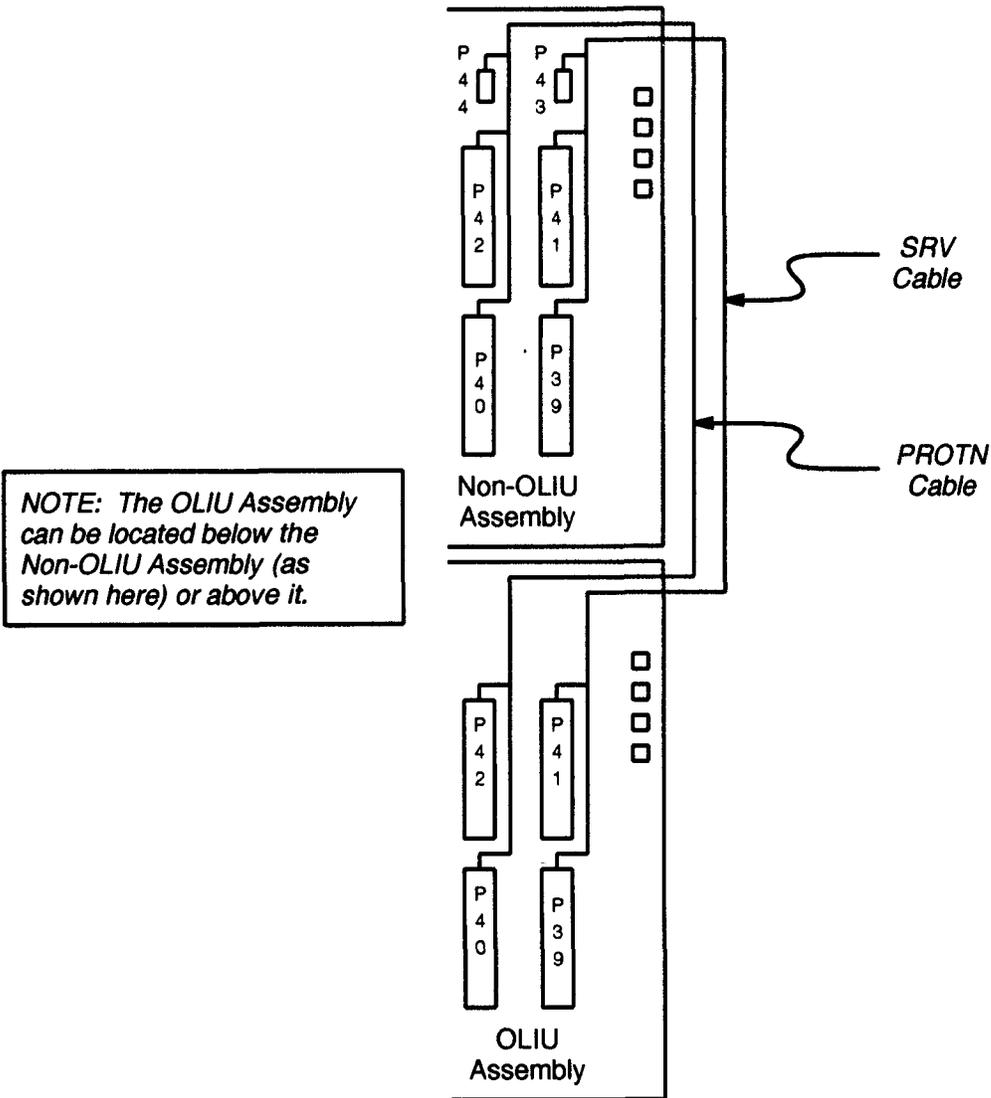

Figure 1. Location of ED-2C833-20, G17-G20 Cables
20. Refer to **Figure 1** and remove the **PROTN ED-2C833-20, G17-G20** cable assembly from the **DDM-1000** backplanes at each end of the system.